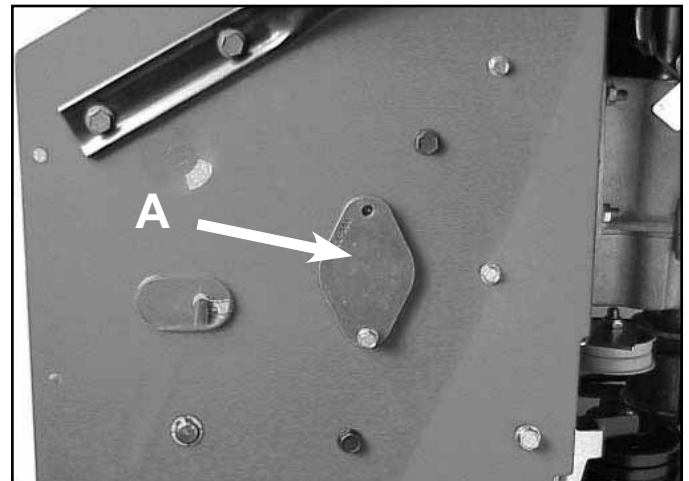

Fig 105
8. Remove the two capscrews securing the bearing retainers to each side of the traction frame. Slide the bearings and retainers off the hex shaft (Fig. 105). The bearings are secured to the retainers with Loctite and are replaced as an assembly.